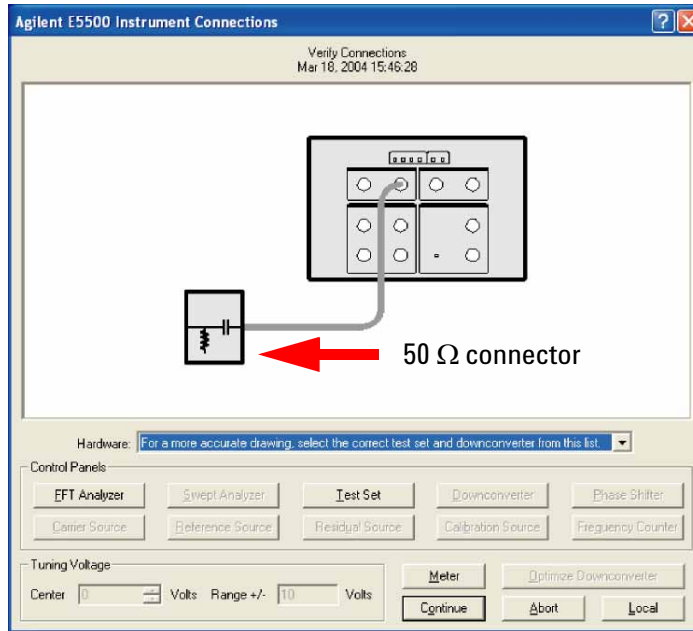

Figure 19 50 Ω connector location for measurement
- 3 When the **Connect Diagram** dialog box appears, connect the 50 Ω termination provided with your system to the test set's NOISE IN connector (as shown in Figure 19 on page 42).